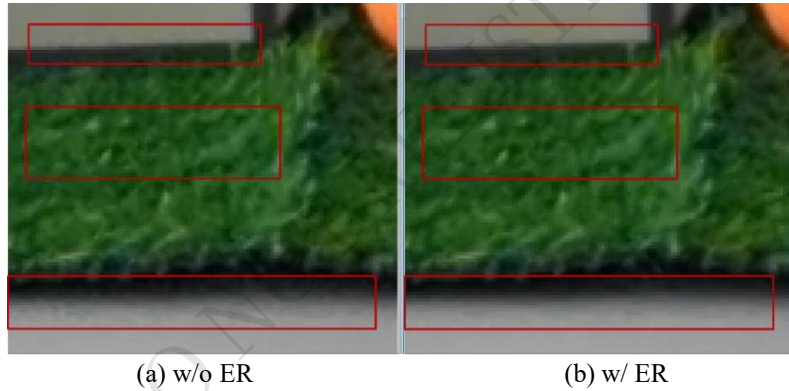

Fig 6.75 The effect of ER.
- Each debug information can be cross-referenced to the title of each sub-page, as Fig 6.75